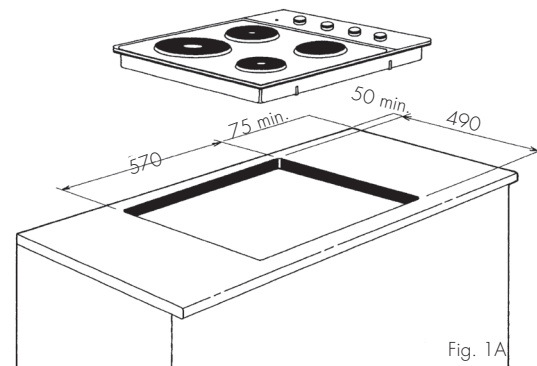

Fig. 1A
1. **The bench cutout** – should be made as per diagram (Refer Fig 1A).